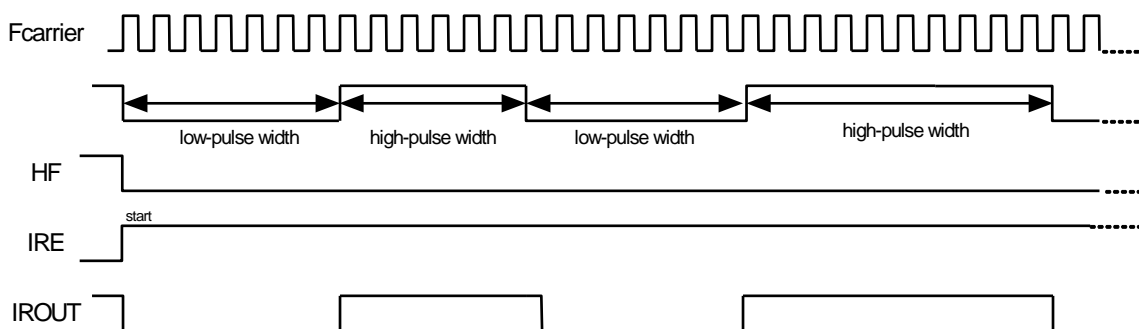

Figure 6-22 LGP=0, IROUT Pin Output Waveform
**Figure 6-22** LGP=0, HF=0, the IROUT waveform cannot modulate Fcarrier waveform when in low-pulse width time. So IROUT waveform is determined by high-pulse time and low-pulse time. This mode can produce standard PWM waveform.